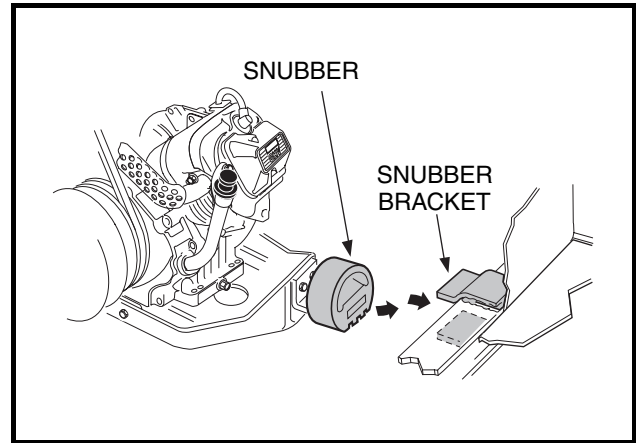

Figure 18-39 Snubber
12. Remove the blocks from under the engine and roll the powertrain into position under the vehicle. Then lift the front of the powertrain and place the snubber into the snubber bracket in the vehicle frame (Figure 18-39, Page 18-15).